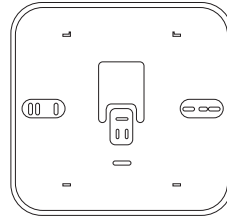

Figure 9 - Device Mounting Plate
- If necessary, install the mounting plate to the electrical box included in the kit (Figure 9).